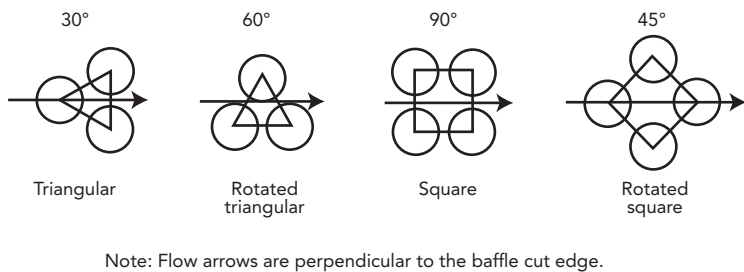

Figure 4. More tubes can fit with 30° and 60° configurations but mechanical cleaning may be harder.
• *Tube pattern.* Shell and tube heat exchangers typically are fabricated with one of four types of tube patterns — 30°, 60°, 45° and 90° (Figure 4). Duty, pressure drop, cleanability, cost and vibration all depend on which pattern is chosen. Consider process needs, not cost, when making the selection.